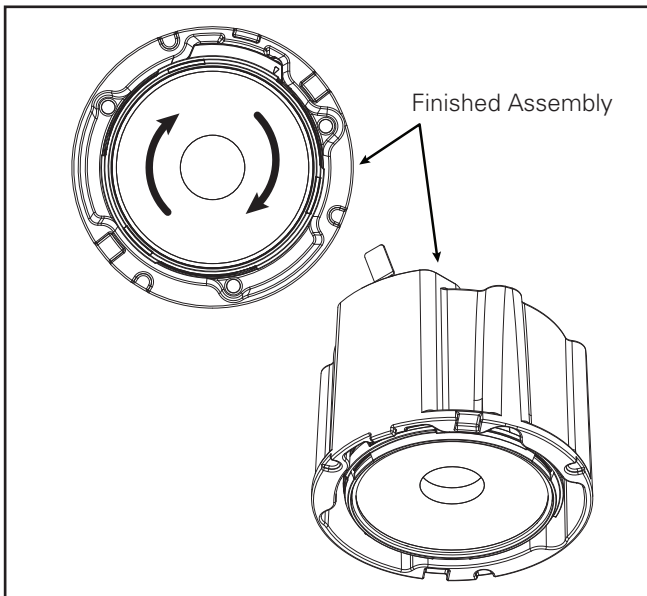
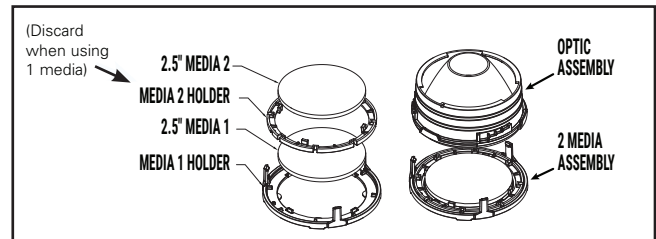

Figure 15
Figure 16
2. If the LED modules has 2 LEDs, gently remove the upper reflector by disengaging the white plastic latches (Figure 15. & Figure 16.) and discard it. Retain the upper reflector on the trim for 1LED modules.
4. Fasten optic assembly with LED Light Engine by gently twisting clockwise until it stops. (Figure 15) Ensure the optic is secured in place.
3. Insert media into the holder, if using only one media discard the second media holder ring. (Figure 16)